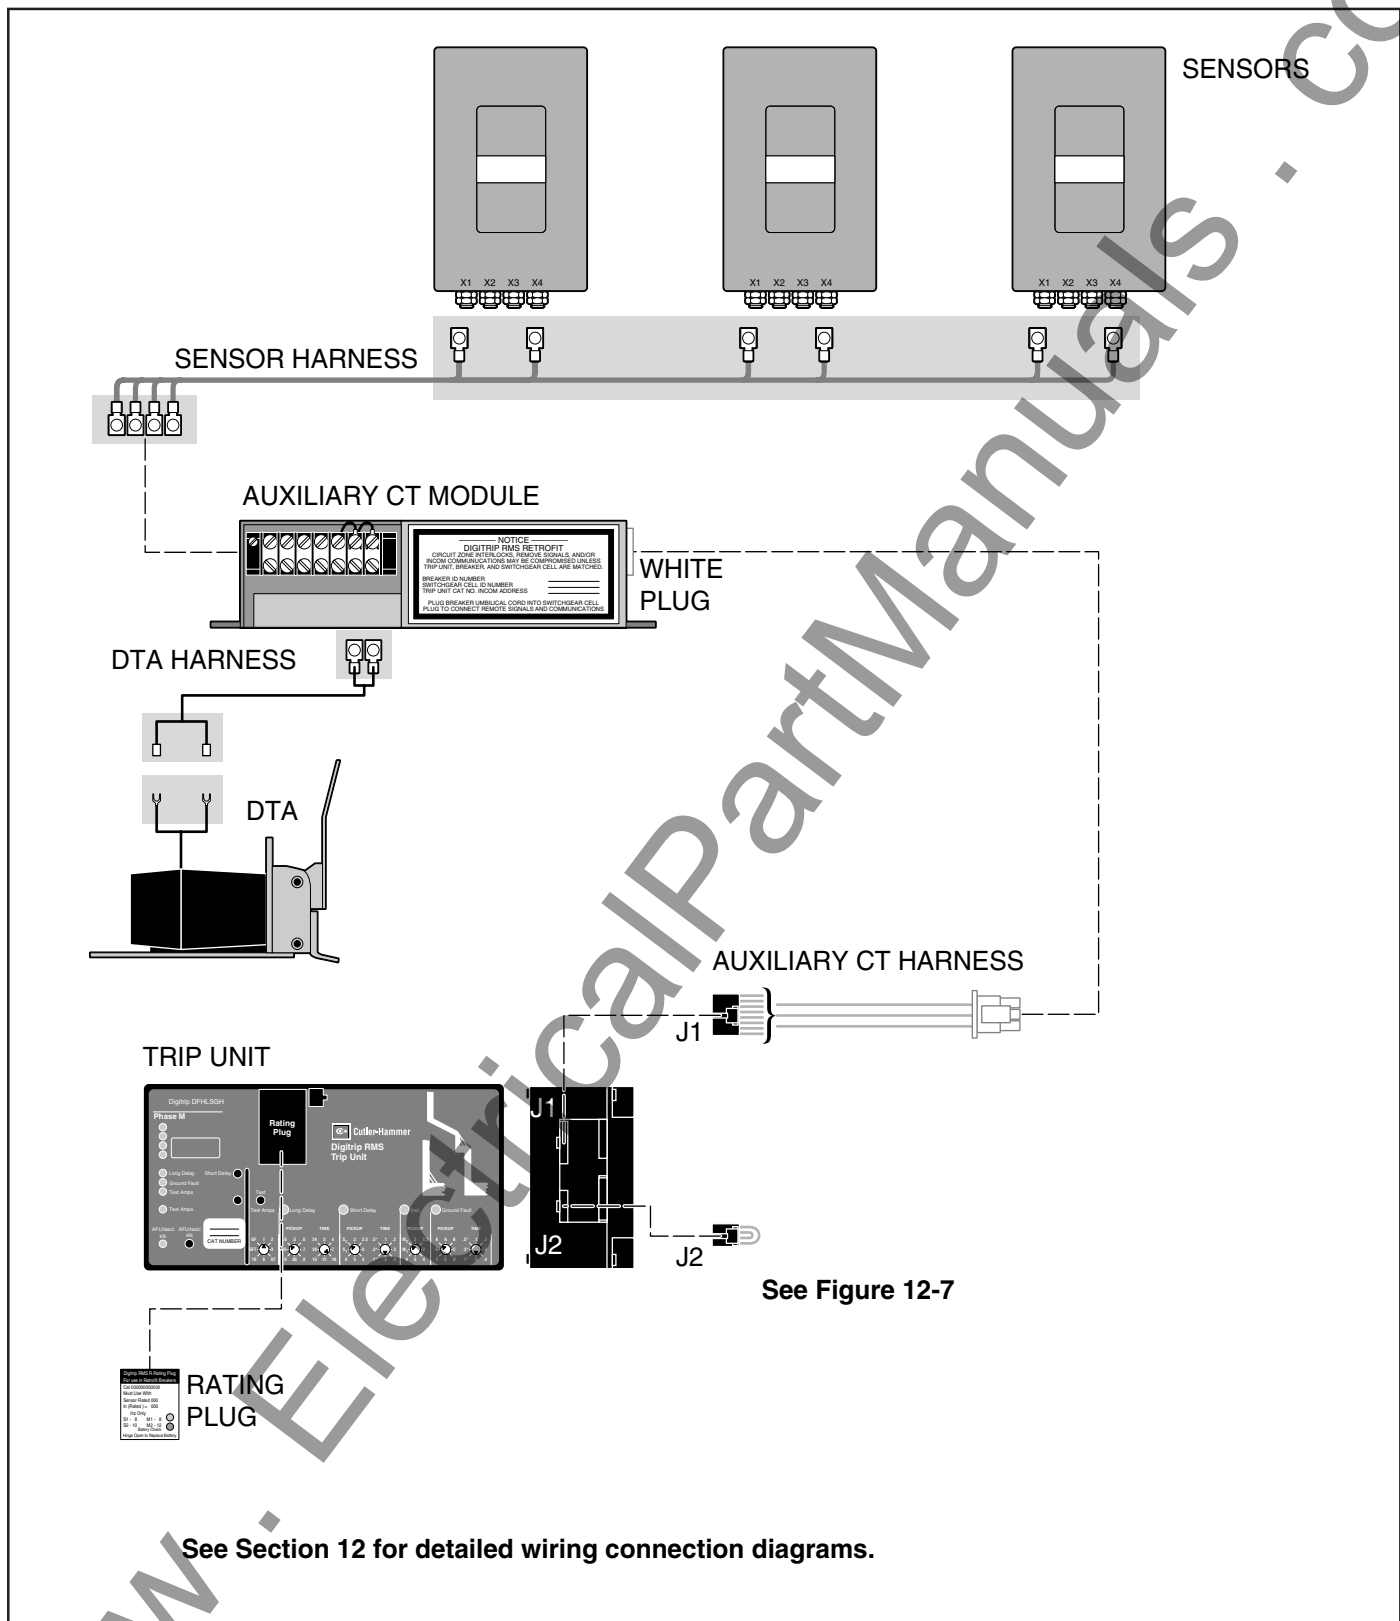

Fig. 4-1 Digitrip RMS 510 Basic Wiring
The complete Digitrip RMS 510 Basic Retrofit Kit is mounted on the Breaker. Therefore, no Switchgear Cell modifications or wiring are required. Zone Interlocking signals from the Trip Unit are not wired out from the Breaker. The External Harness (Figure 12-7) consists of a small jumper plug that shorts out the Zone Interlock signals at the Trip Unit. Refer to Figure 4-1 for the Retrofit Kit wiring connections on the Breaker.
**NOTE:** Figure 4-1 applies to Retrofit Kits other than SPB and DS Retrofit Kits. Refer to the DS or SPB ILs or kit manual for specific wiring.